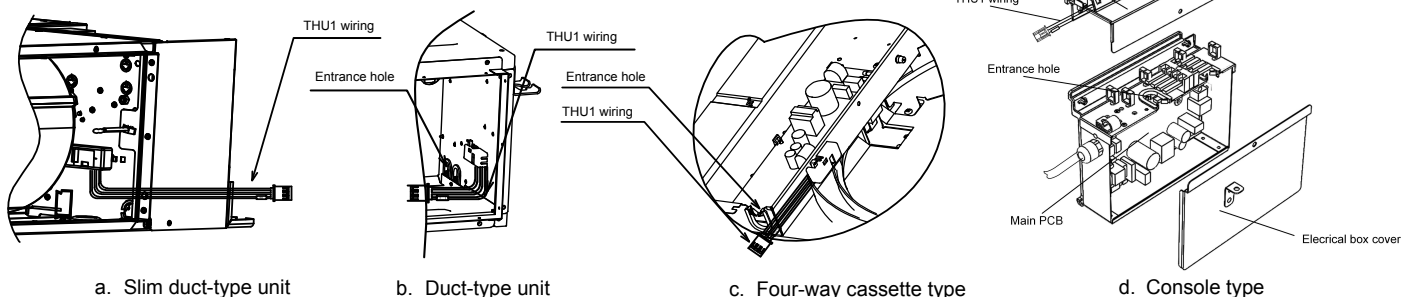

Fig. 4: THU1 wire is led into electric box via electric box entrance hole and the THU1 terminal is inserted into base board
- Lead the THU1 wire into electric box via the entrance hole of electric box as shown in Fig. 4.